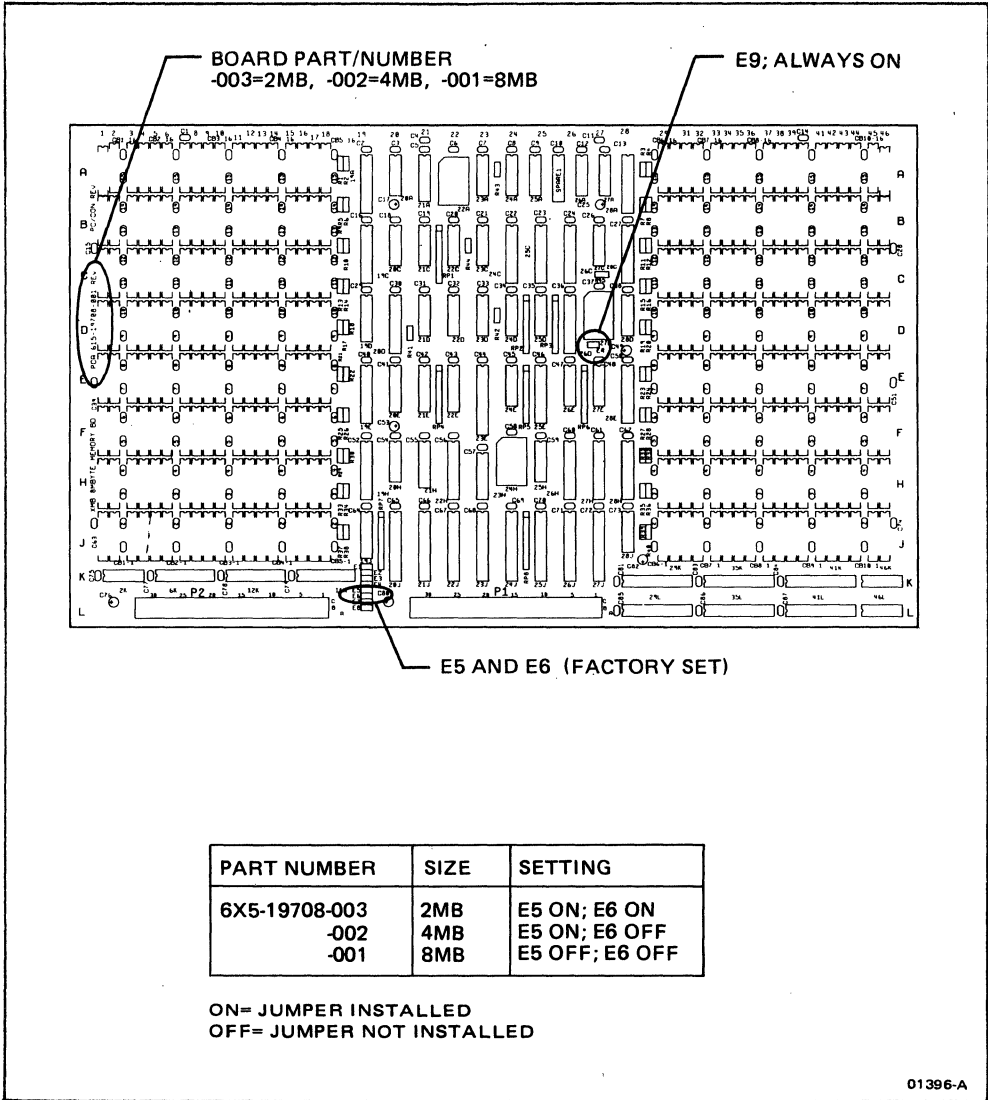

Figure A-1. Default Jumper Settings
In order for the system to work properly, *each* memory board must be jumpered with: (1) the board number and (2) the size (memory capacity) of the board. Figure A-1 illustrates the E5 and E6 default (factory) jumper settings for the memory board series.